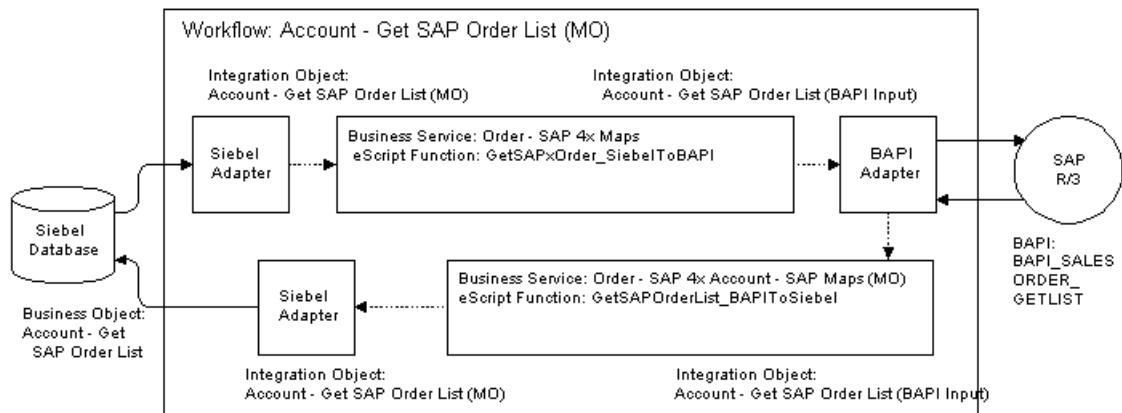

Figure 14. Business Data Flow for Get SAP Order List
Retrieval of Account Order History contains two business data flows. Figure 14 shows the business data flow for Get SAP Order List. This consists of the Account-Get SAP Order List (MO) workflow. This workflow extracts a record from the Siebel Database, using the Siebel Adapter, which passes the record to the Order-SAP 1x Maps business service. This business service sends the record to the BAPI Adapter. The BAPI Adapter communicates with SAP R/3 using the BAPI SALES ORDER GETLIST BAPI. SAP R/3 returns the record through the BAPI Adapter, which passes it to the Order-SAP 4x Maps (MO) business service. This business service sends the record to the Siebel Adapter, which writes it to the Siebel Database.